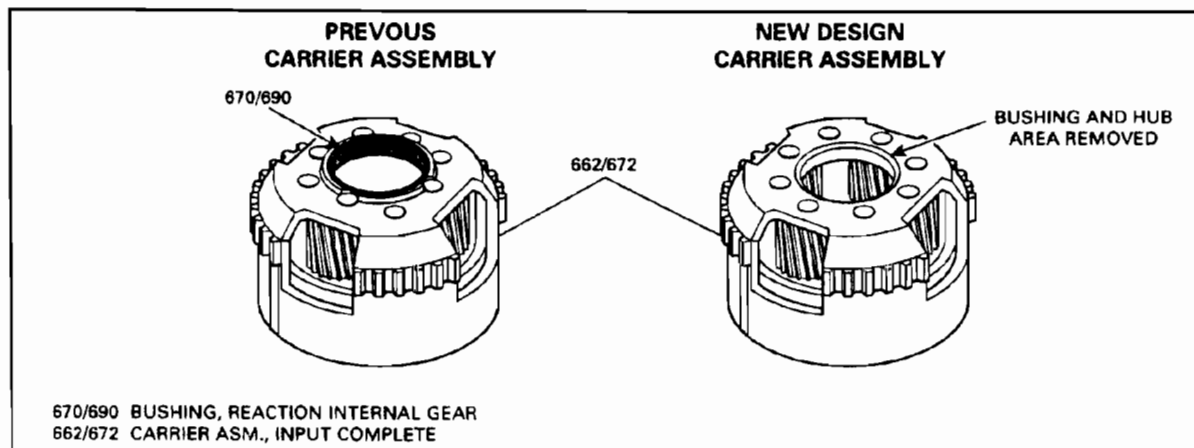

Figure 49
- (4) INPUT CARRIER - Lip on top of input carrier completely removed, and the bushing completely removed, to accomodate double sprag assembly. There have also been some internal changes to improve lube and durability. (See Figure 49).